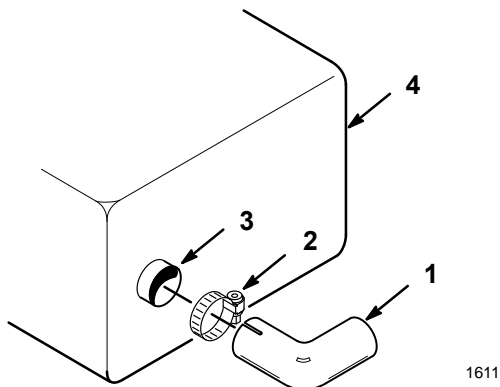

Figure 1
1. Position clamp over slotted section of the exhaust elbow (Fig. 1).
2. With exhaust elbow outlet directed toward the front of the machine, slide over the muffler exhaust outlet tube (Fig. 1).
1. Remove bolt and locknut securing top of R.H. bracket support and R.H. idler bracket to rear frame (Fig. 1).
2. Remove (2) bolts and locknuts securing bottom of R.H. bracket support to rear frame (Fig. 1).